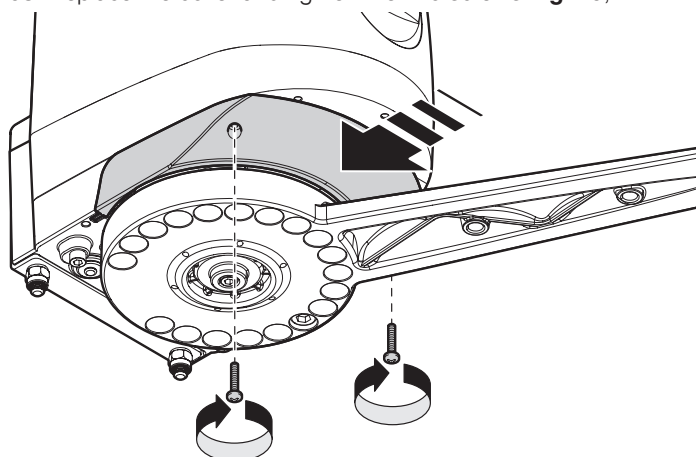

Fig. 19
08. Replace the cover and tighten the two screws **Fig. 19**;